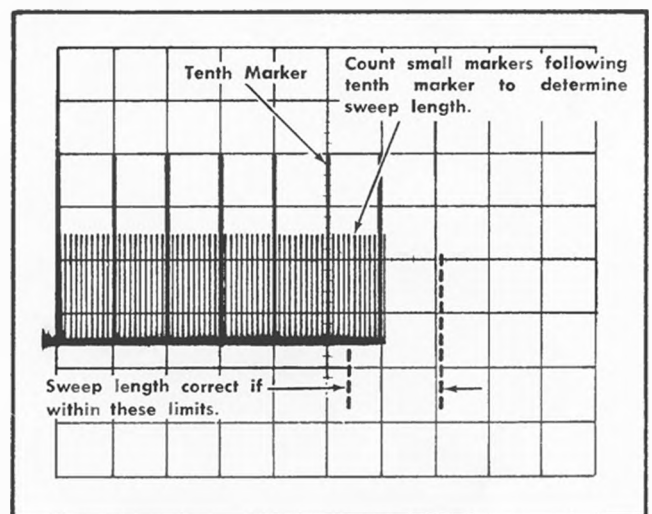

Fig. 6-43. Typical CRT display when checking sweep length.
- Position the tenth marker to the center vertical line with the Horizontal POSITION control (see Fig. 6-43).
- CHECK—Sweep length between 10.4 and 12.1 divisions as shown by 0.4 to 2.1 divisions of display to the right of the vertical center line (see Fig. 6-43). Large markers in the display indicate divisions and small markers 0.1 division.